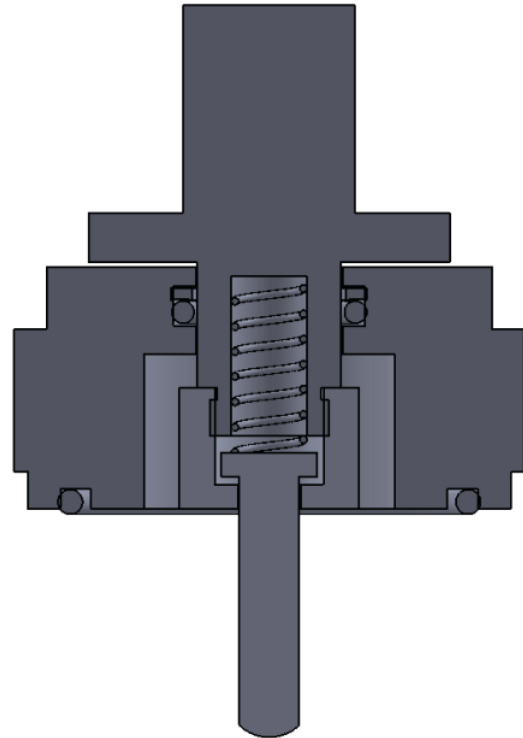

Figure 2
1. Remove adjusting screw assembly (6) completely out of the spring housing (5).
2. Clamp the valve in a vise using the body (1).
3. Remove the SHCS (13) then lift off spring housing (5).
4. Remove range spring (3) and upper spring guide (4).
5. Remove piston assembly ((7), (16), (17), and (18)). Remove cylinder face seal (10) and discard. Note: the return spring (19) and seals (9) and (11) are enclosed inside this assembly. See Figure 2.
6. Refer to Figure 2. Place the piston assembly into a vise with the plug (18) pointing upward. Unscrew the plug holder (16) from the piston (17) using a 3/4" deep-welled socket. Caution: The return spring (19) is captured between the piston (17) and plug/plug holder (18/16). Take special care while disassembling the parts to prevent injury from the release of the plug holder (16) and return spring (19). Discard the old cylinder seals (9)(11) and replace with new ones (lubricate lightly with Krytox lubricant). Reassemble the piston assembly. Install new cylinder face seal (10) into bottom of cylinder (7) (lubricate lightly with Krytox lubricant).
7. Place the body (1) back in the vise right side up. Place piston assembly back in body (1), taking special care to guide the plug (18) into the bore hole in the body (1).
8. Place range spring (3) on top of piston assembly. Place upper spring guide (4) on top of spring (18).
9. Place spring housing (5) on top of body (1). Thread SHCS (13) into body hand tight. Cross tighten to 200 in lbs.
10. Thread adjusting knob (6) into spring housing (5)
11. Invert the body and remove the bottom cap (2) from body (1).
12. Remove seat assembly (14)(15) from body (1) and discard.
13. Inspect all parts for damage and replace if necessary. Remove and replace bottom cap seals (8)(12) (lubricate lightly with Krytox lubricant). Replace seat assembly (14) and insert the bottom cap (2) back into the body (1). Note: Use only parts manufactured and supplied by LowFlow Valve for these parts.